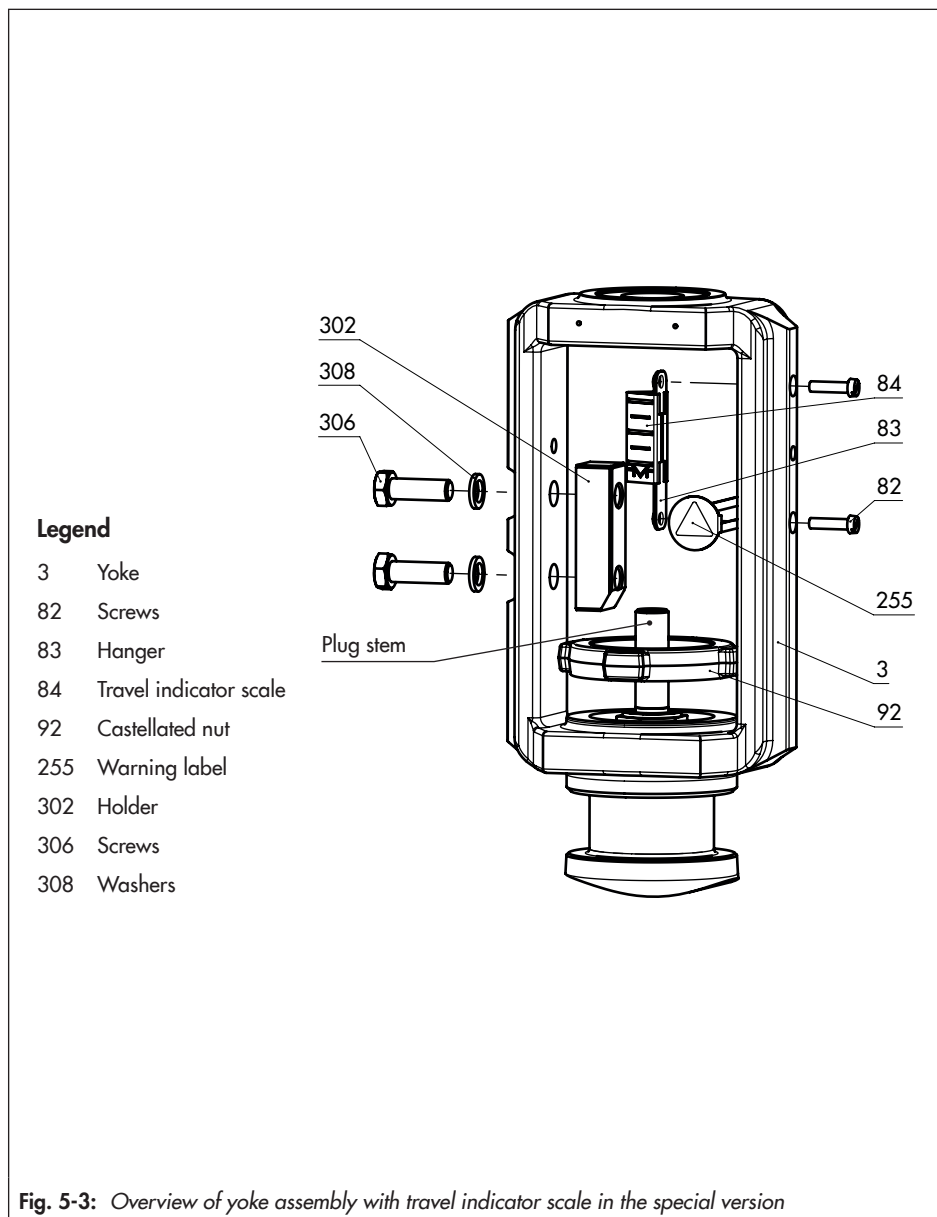
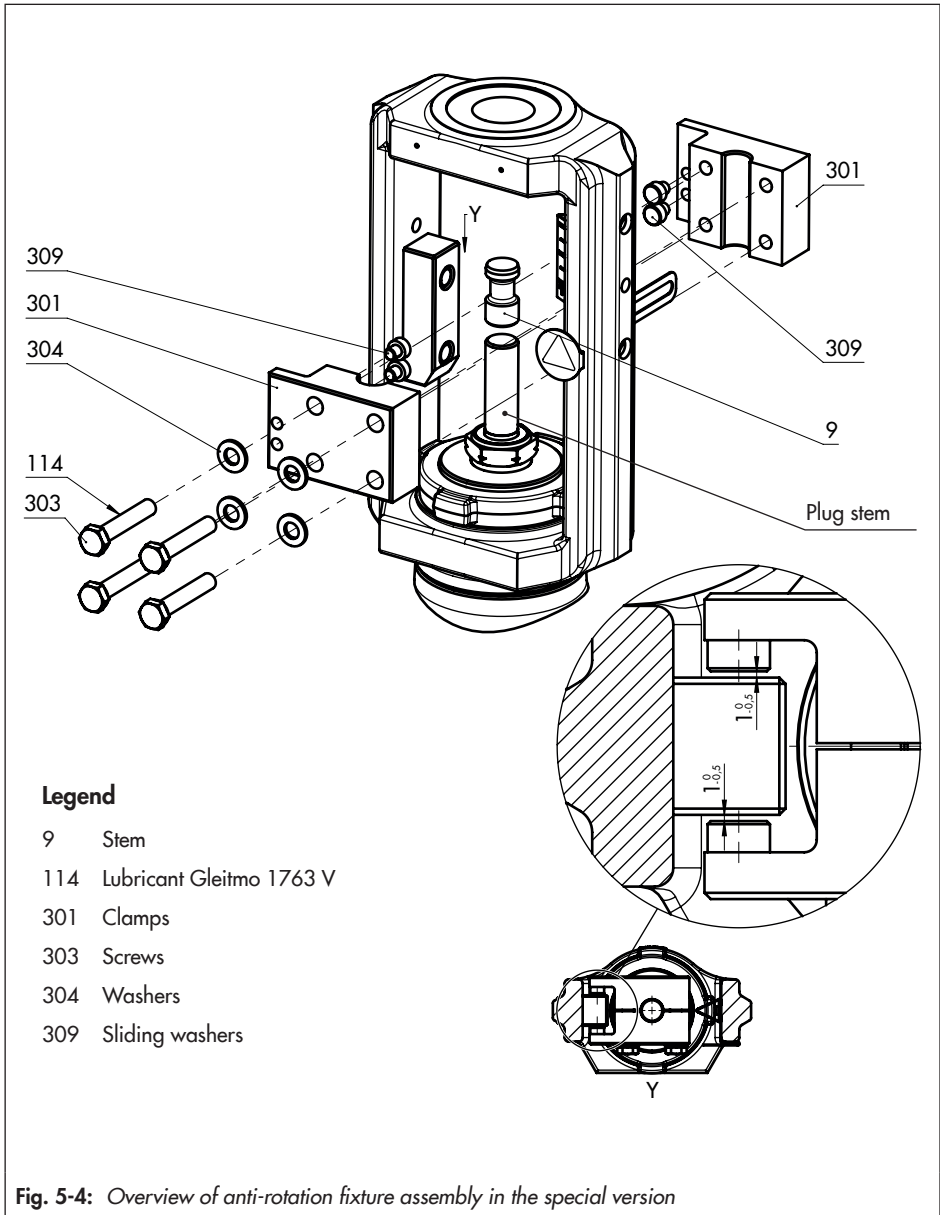

Fig. 5-3: Overview of yoke assembly with travel indicator scale in the special version
Fig. 5-4: Overview of anti-rotation fixture assembly in the special version
See Fig. 5-3 and Fig. 5-4
- There is a nominal clearance of 0.5 to 1 mm between the sliding washers and their contact surface on the yoke on each side (see detailed view Y in Fig. 5-4).